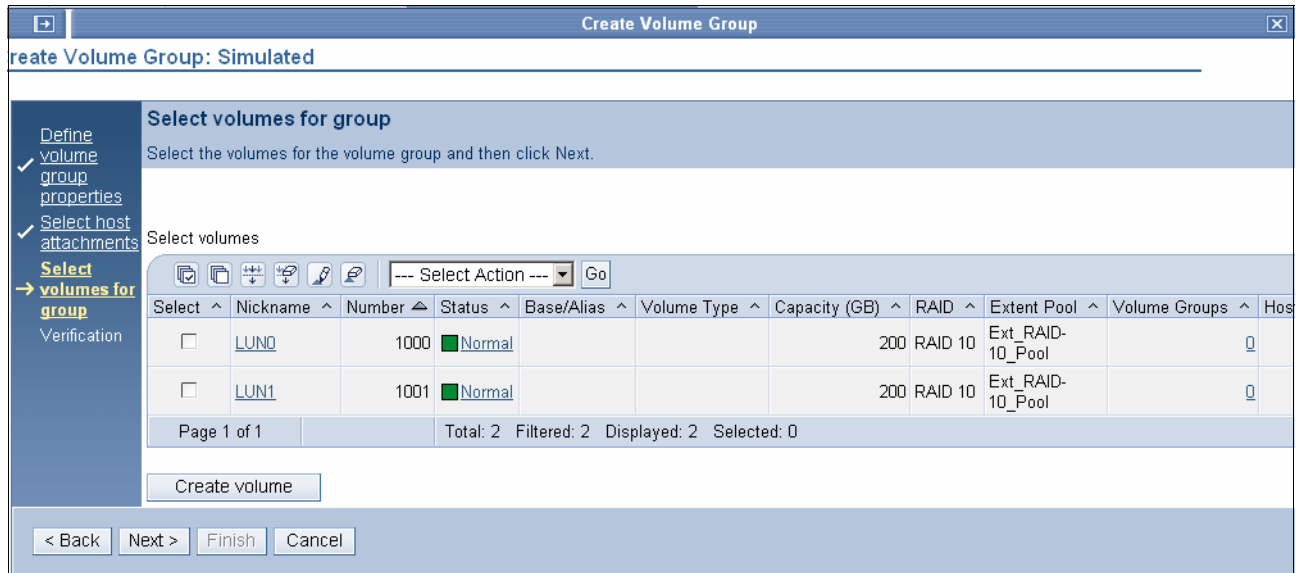

Figure 10-46 The Select volumes for group panel
5. Select volumes on the Select volumes for group panel shown in Figure 10-46.